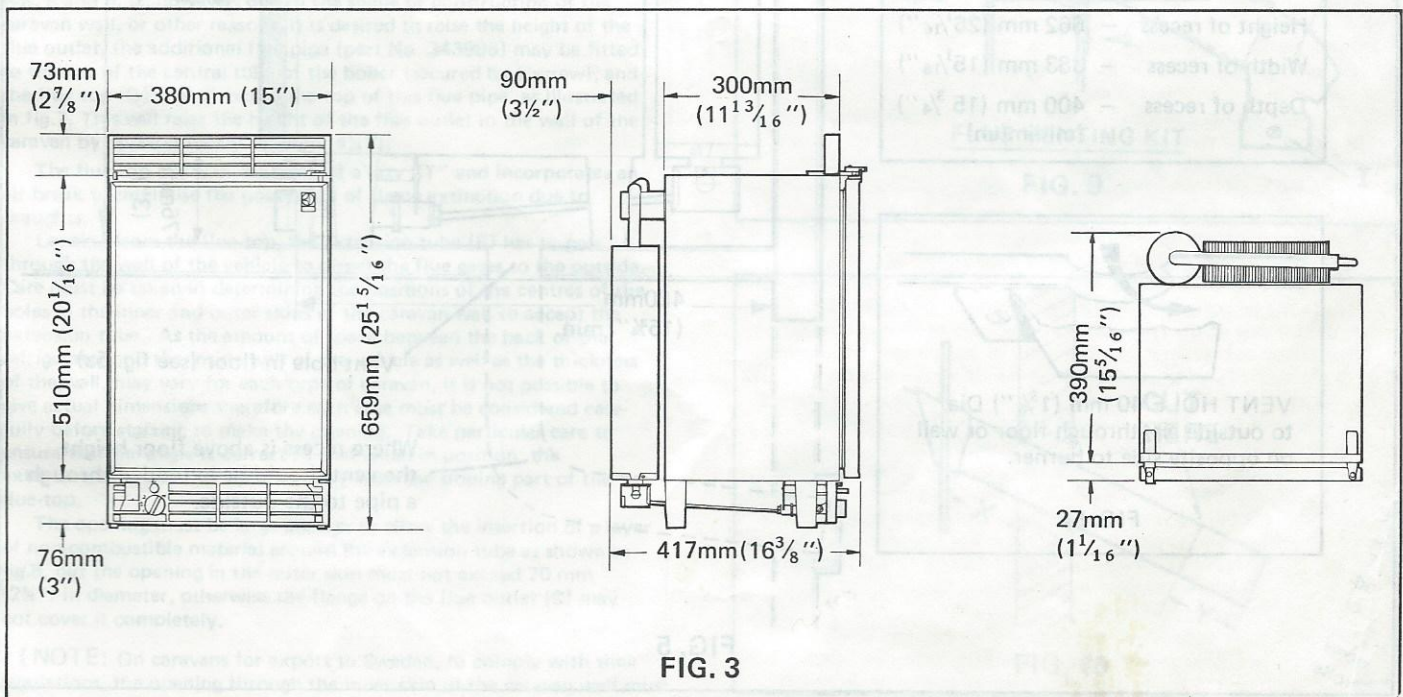

FIG. 3
The exterior dimensions of the refrigerator are given in fig.3. For dimensions of the recess to house the refrigerator when building-in, refer to item 9.